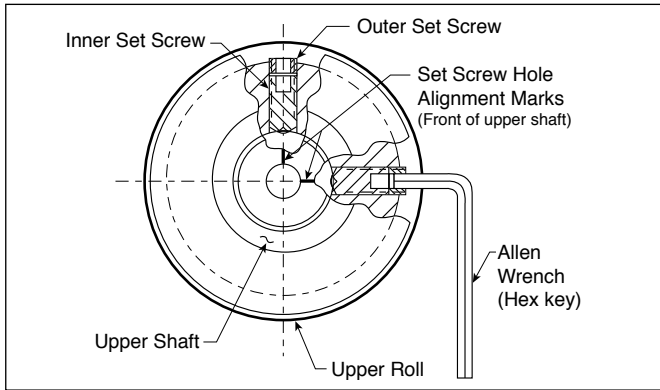

FIGURE 1
- Loosen the upper roll by inserting the 3/16-inch allen wrench (supplied) into each outer set screw, as shown in Figure 1 above. Loosen each outer set screw approximately half a turn.